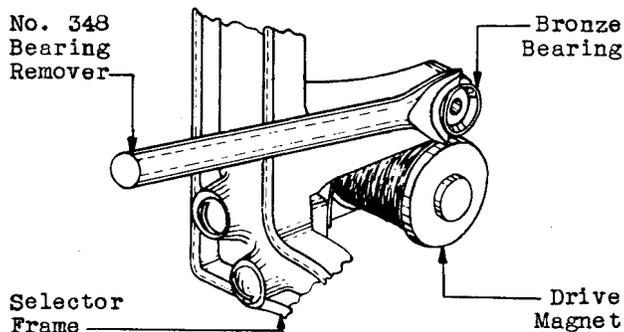

Fig. 5 - Method of Using
3.14 To replace the bronze bearing, remove the rotor brush assembly as outlined in 3.08 and 3.09. Remove the bearing with the No. 348 bearing remover applied in the manner shown in Fig. 5. Wedge the bearing remover between the bearing and the selector frame, forcing out the bearing. Press a new bearing into position and remount the rotor brush assembly as outlined in 3.10 and 3.11.